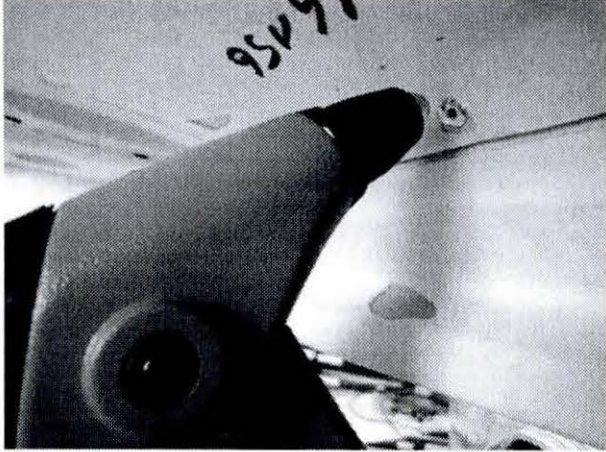

Figure 13
8. Remove foam material around contact surface of rivet head. Set rivets (3 pcs.) from parts kit into holes and rivet with provided riveter (Figures 13, 14).